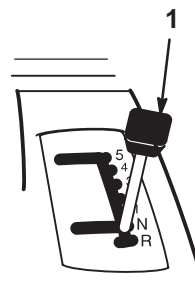

Figure 7
3. Shift the ground speed lever into Neutral (N) (Fig. 7).